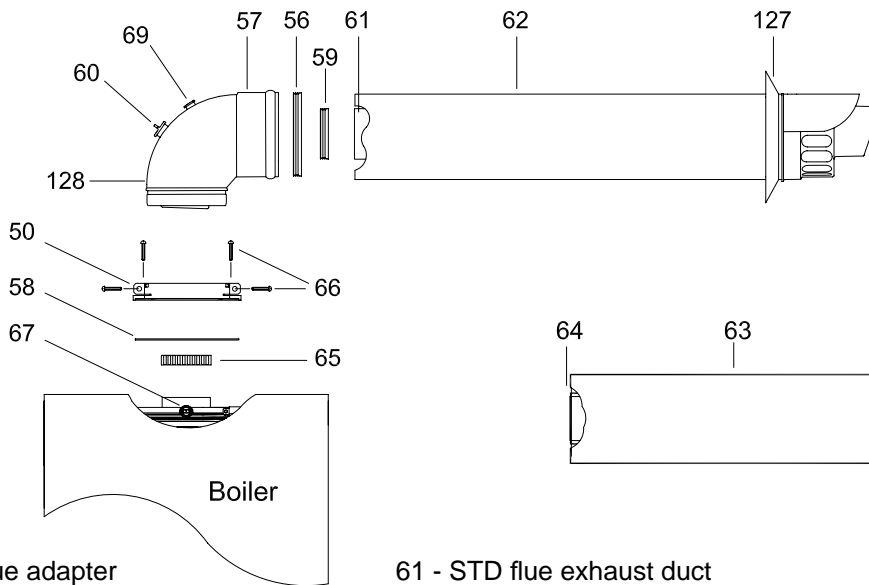
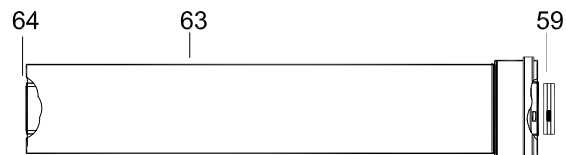

Fig.17
Fig.18
- 5.5.6** Working above the boiler pull the flue exhaust duct towards the boiler in order to engage tube (Fig. 17 item 61) into its header. Position flue into elbow header and push so as to locate inner and outer flue correctly ensuring good seal is made with "O" rings.
- 5.5.8** Extensions kits are available to order for flue extension of up to 7 metres total length (Fig.18).
5.6.9 Each extension length extends the pipe by approximately 1000 mm long up to a maximum of seven extensions. Pipeline length can be established using the instructions in section 5.5 for rear flue outlets and section 5.6 for side flue outlets. Extensions must be installed with the widened end of the air intake pipe and the tapered end of the flue pipe aimed towards the exhaust terminal. Extensions must be joined together with the standard terminal pipe, and inserted in each other as far as they can go. If an extension must be shortened, this must be done from the straight end, and not from the widened or tapered end. To measure the pipeline properly all components must be assembled and total length measured before cutting. The straight end of the extension connects to the boiler. The flue output and air intake pipes fits into the boiler header until it stops (Fig.17 - Fig.18).
- Insert plastic expansion plugs (Fig. 18).
This part of the installation manual covers the installation and fixing instructions of the twin flue eccentric flue duct systems only. When ordering twin flue it must be stated for WH 100/130 range. Typical installation procedures are illustrated by drawings. Remove the front panel of the case (sect.8.1). Unscrew the screw (Fig.17 item 66) on the flue adapter.
Make sure that the Flue manifold rubber seal is located into the flue manifold, and lubricate the internal part of the seal before assembly. Locate the header gasket on the twin flue header and push into the flue adaptor (Fig.17 item 56) making sure that the inner plastic exhaust locates firmly in the outlet spigot of the flue manifold, and screw the securing screw that secures the twin flue header on the boiler.